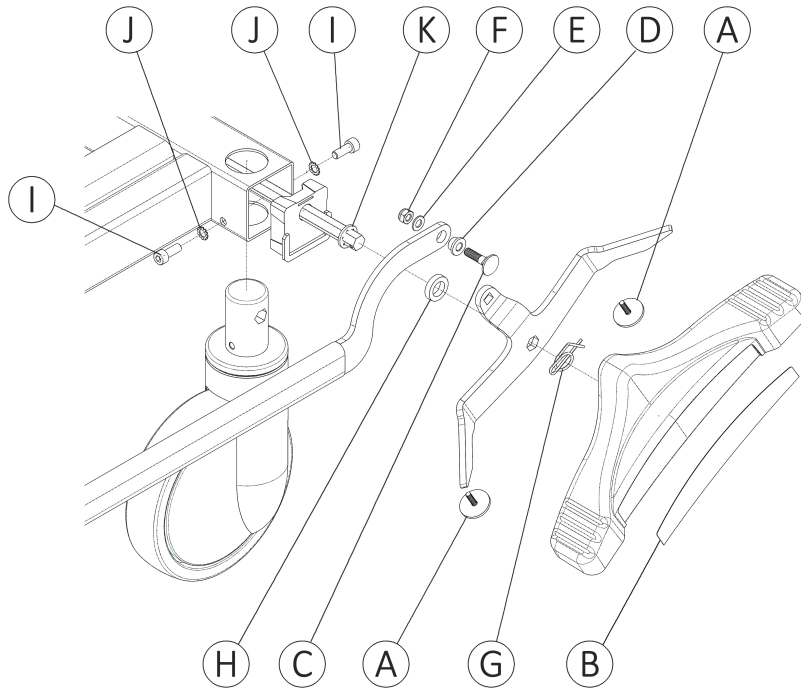

Figure 8 – Steer caster
4. Using needle nose pliers, remove and discard the rue ring cotter pin (G) from the hex shaft (Figure 8).
6. Remove and save the plastic washer (H) that is on the hex shaft (Figure 8).
7. Using a hammer and a large screw driver, remove and discard the starlock retainer (K) that is on the hex shaft (Figure 8).
8. Using a 5 mm hex wrench, remove and discard the two screws (I) and washers (J) that secure the non-steer caster to the base frame (Figure 8).